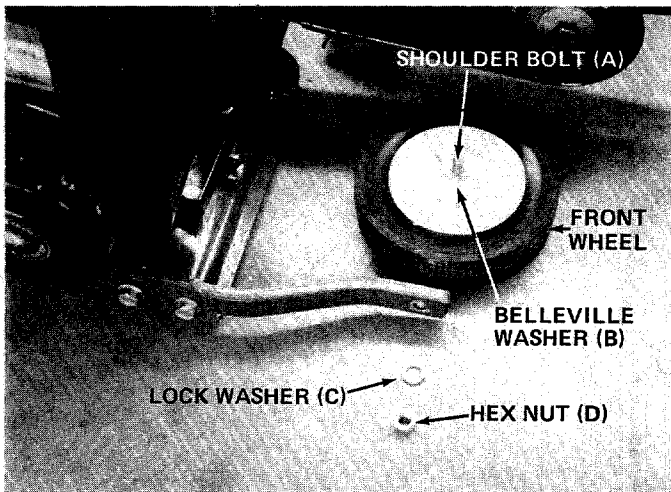

FIGURE 4.
5. Assemble the front wheel (O) as shown in figure 4. Place shoulder bolt (A) through wheel, then belleville washer (B) (between wheel and frame). Secure with lock washer (C) and hex nut (D). See figure 4.